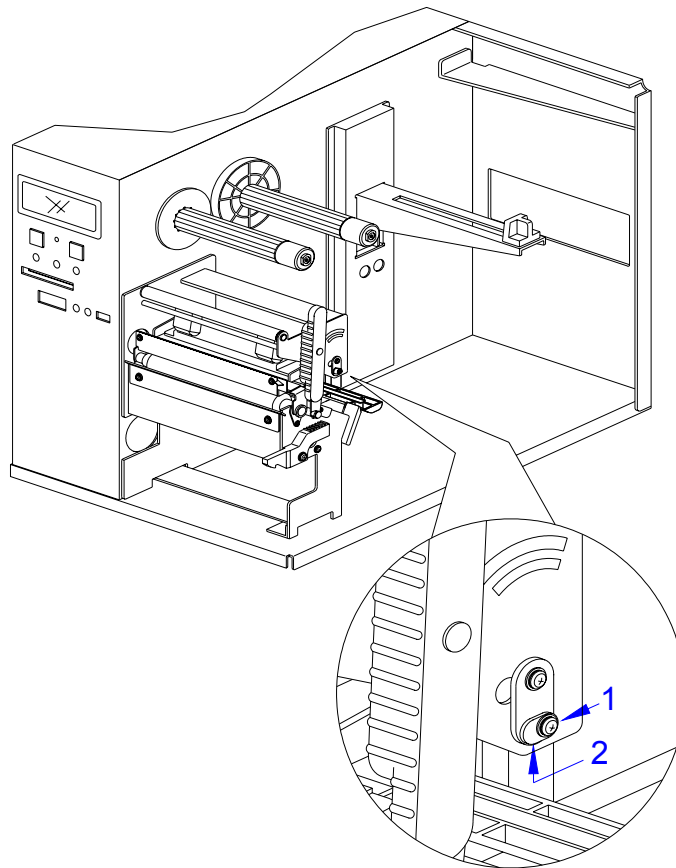

Figure 6-4, Print Head Balance Adjustment
To adjust the balance, begin test printing, slightly loosen set screw (1, Figure 6-4), and slightly move adjustment plate (2) to the right or left as necessary. Retighten set screw (1) while holding adjustment plate (2) when proper printing is achieved.